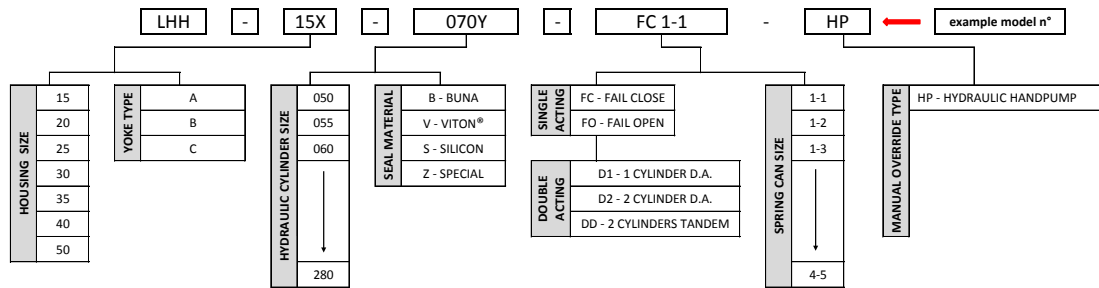

Figure 27: LHH Model Selection Table
- 4.3.2 Remove at least two of the tie rods (31) positioned on the upper part of the cylinder by unscrewing the nuts on the sides of the end flange and of the head flange (or unscrewing the tie rods from the head flange if threaded into the flange.) This operation provides two free holes to be used for lifting the end flange (27). Screw two male eyebolts in these two holes and connect the end flange to a lifting system. Care should be taken to choose a lifting system suitable for the weight of the cylinder. Refer to the weight table shown in Figures 27 and 28. Remove all other tie rods (31), following the same procedure described in point 4.3.2. Then carefully remove the end flange (27) from the tube (30).